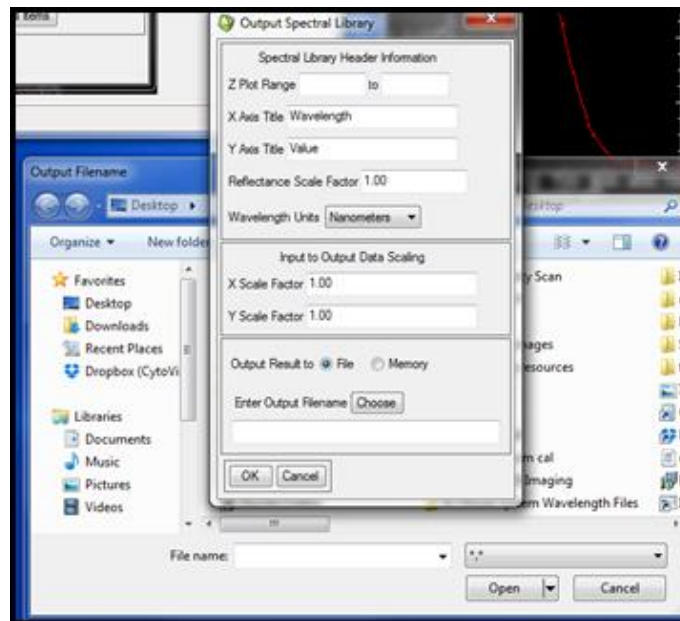

Figure 5.10g. Saving Output Spectral Library
- Click Choose in the Output Spectral Library window (Figure 5.10g).